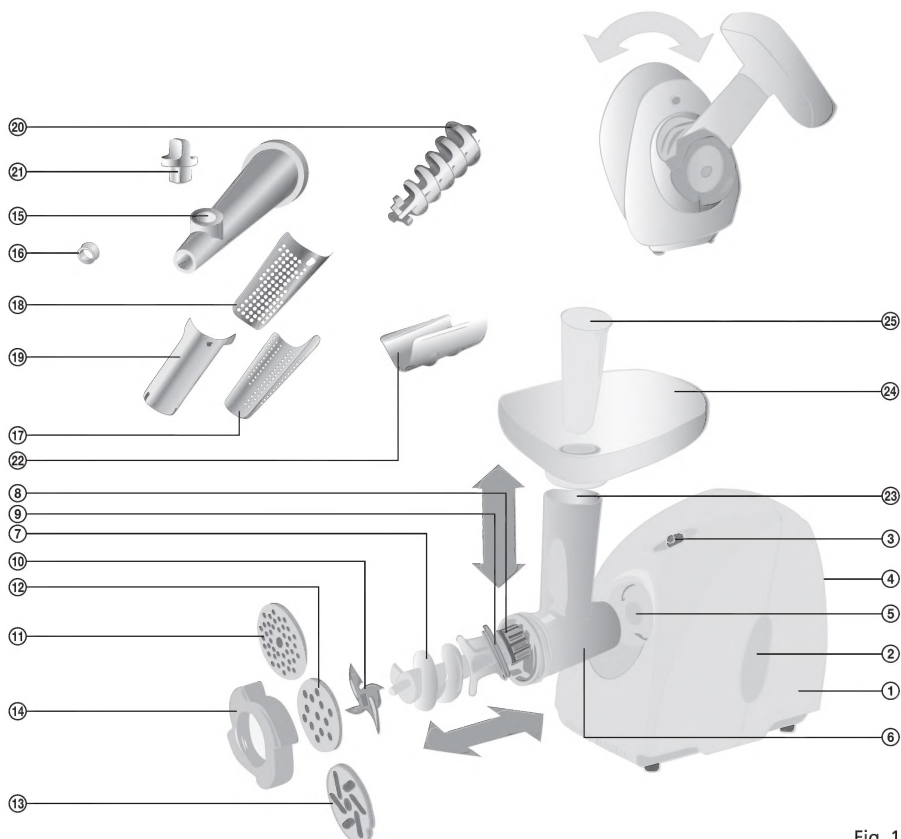

Fig. 1
According to fig. 1 place a plastic washer ⑨ and a safety cap ⑧ onto a worm shaft A ⑦.